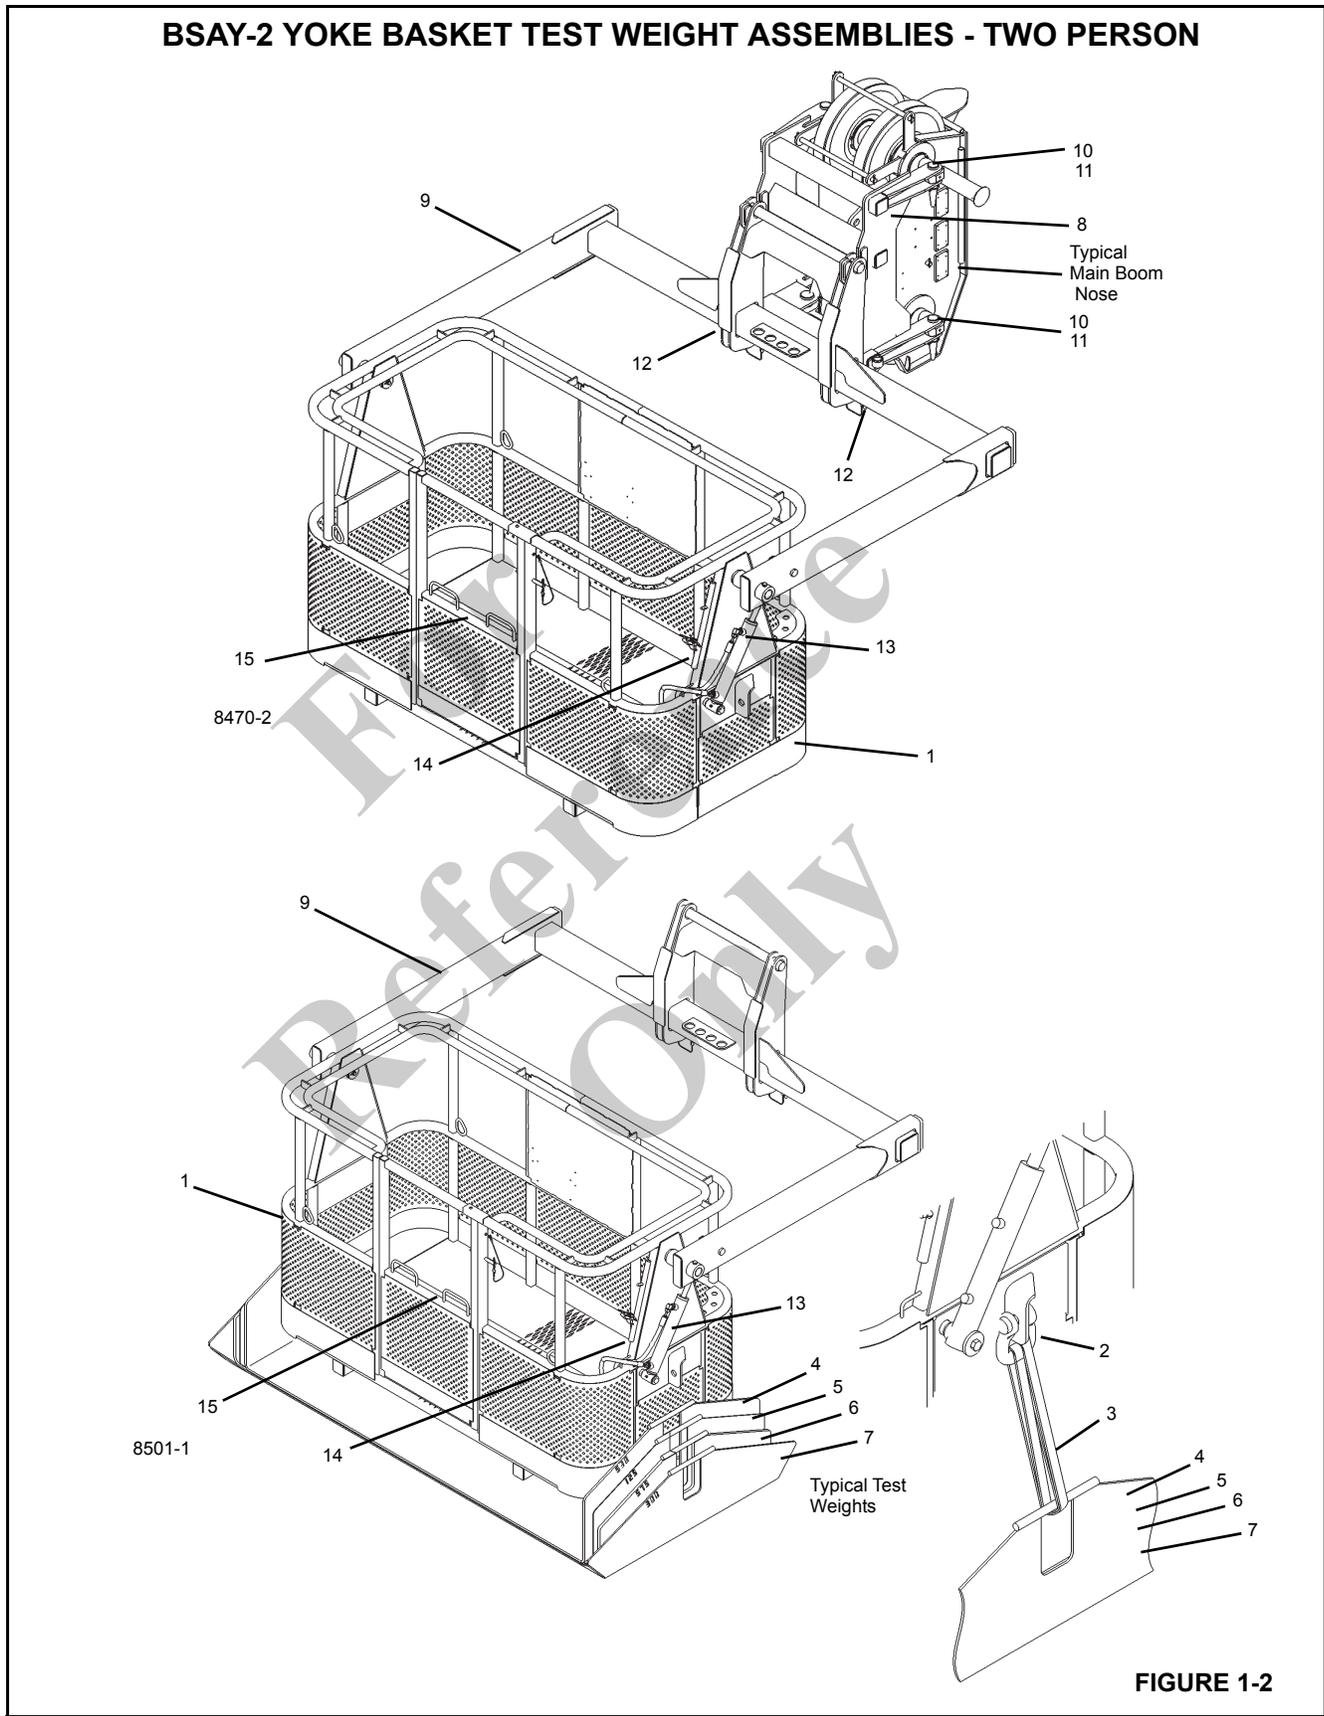
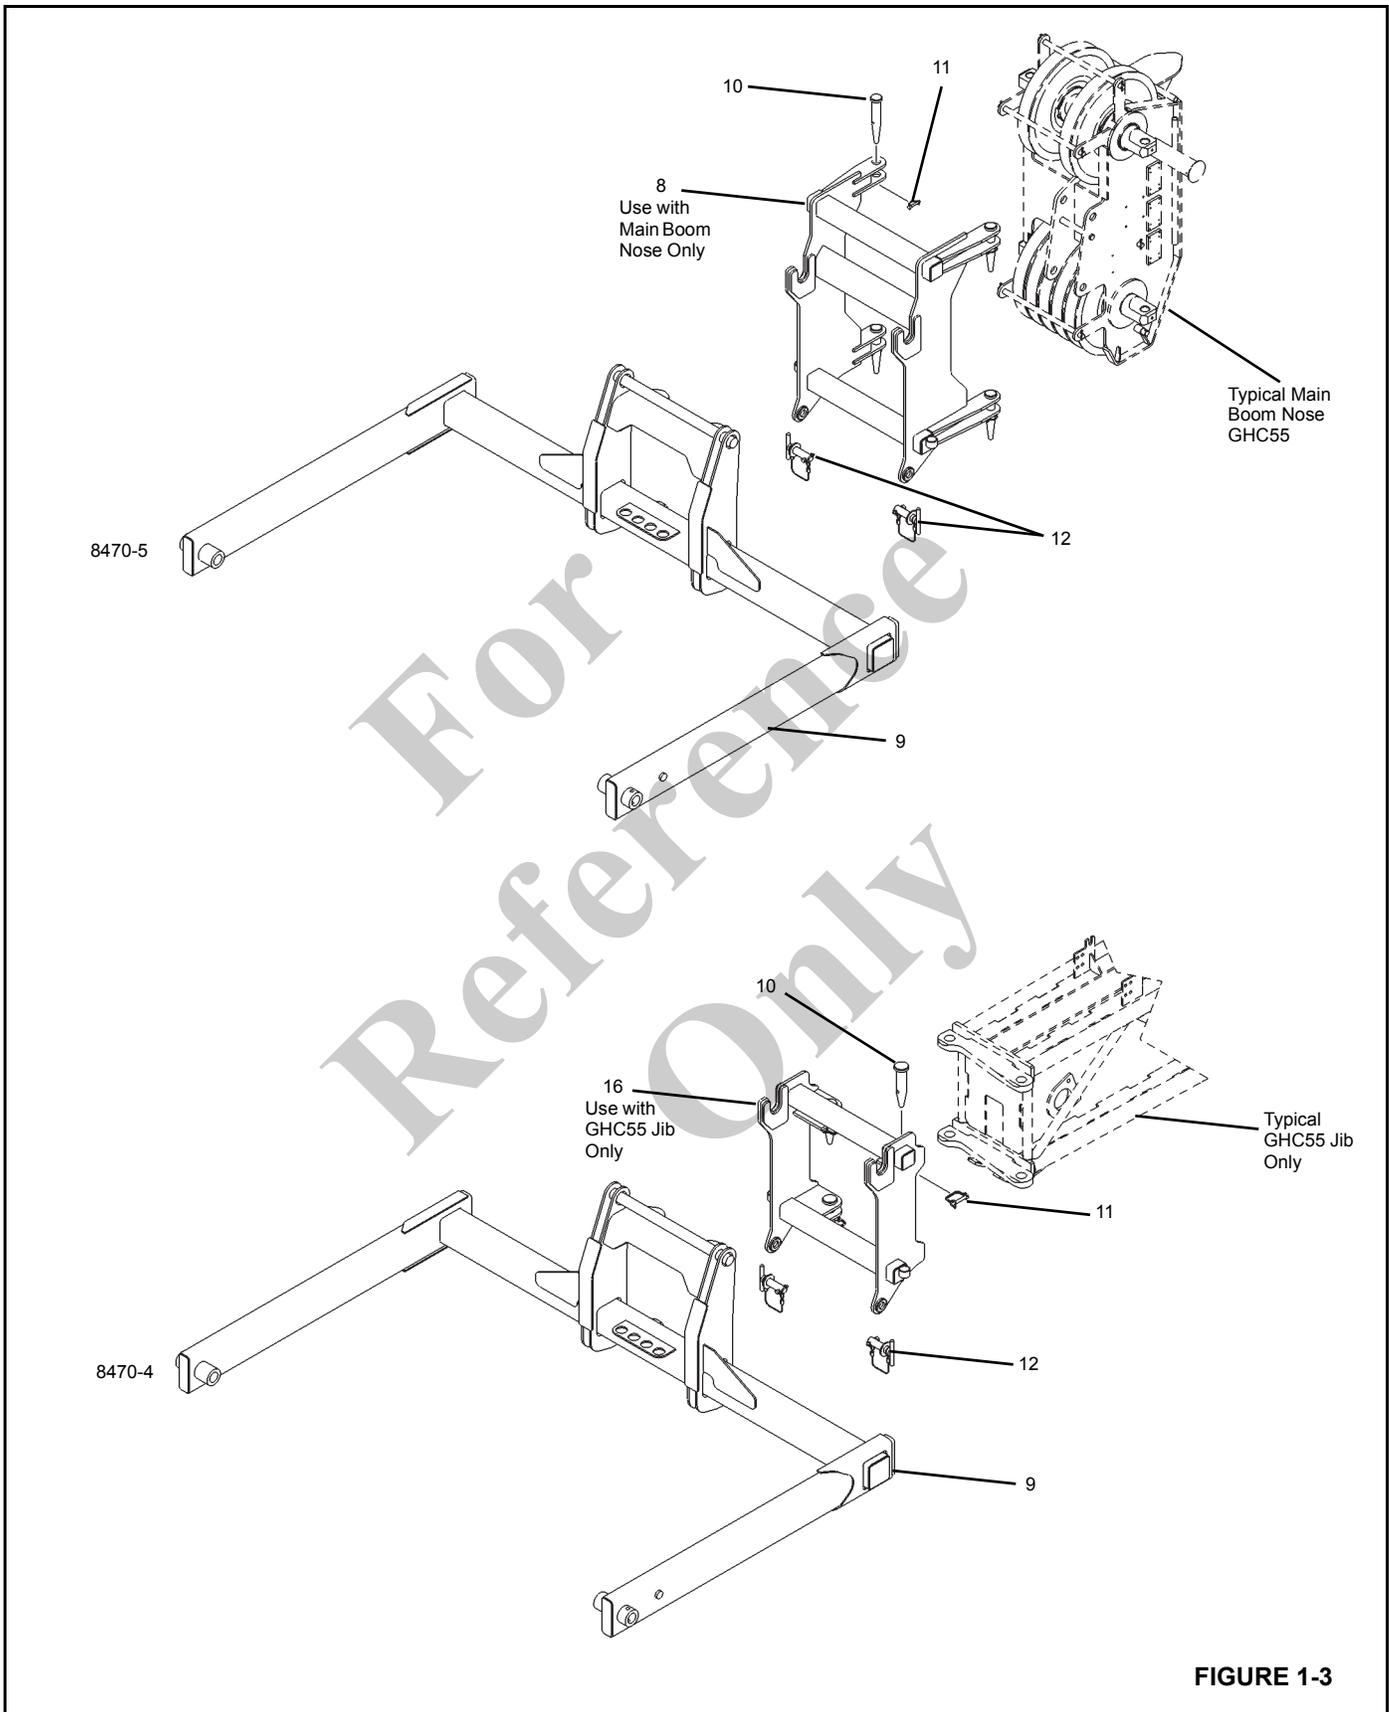
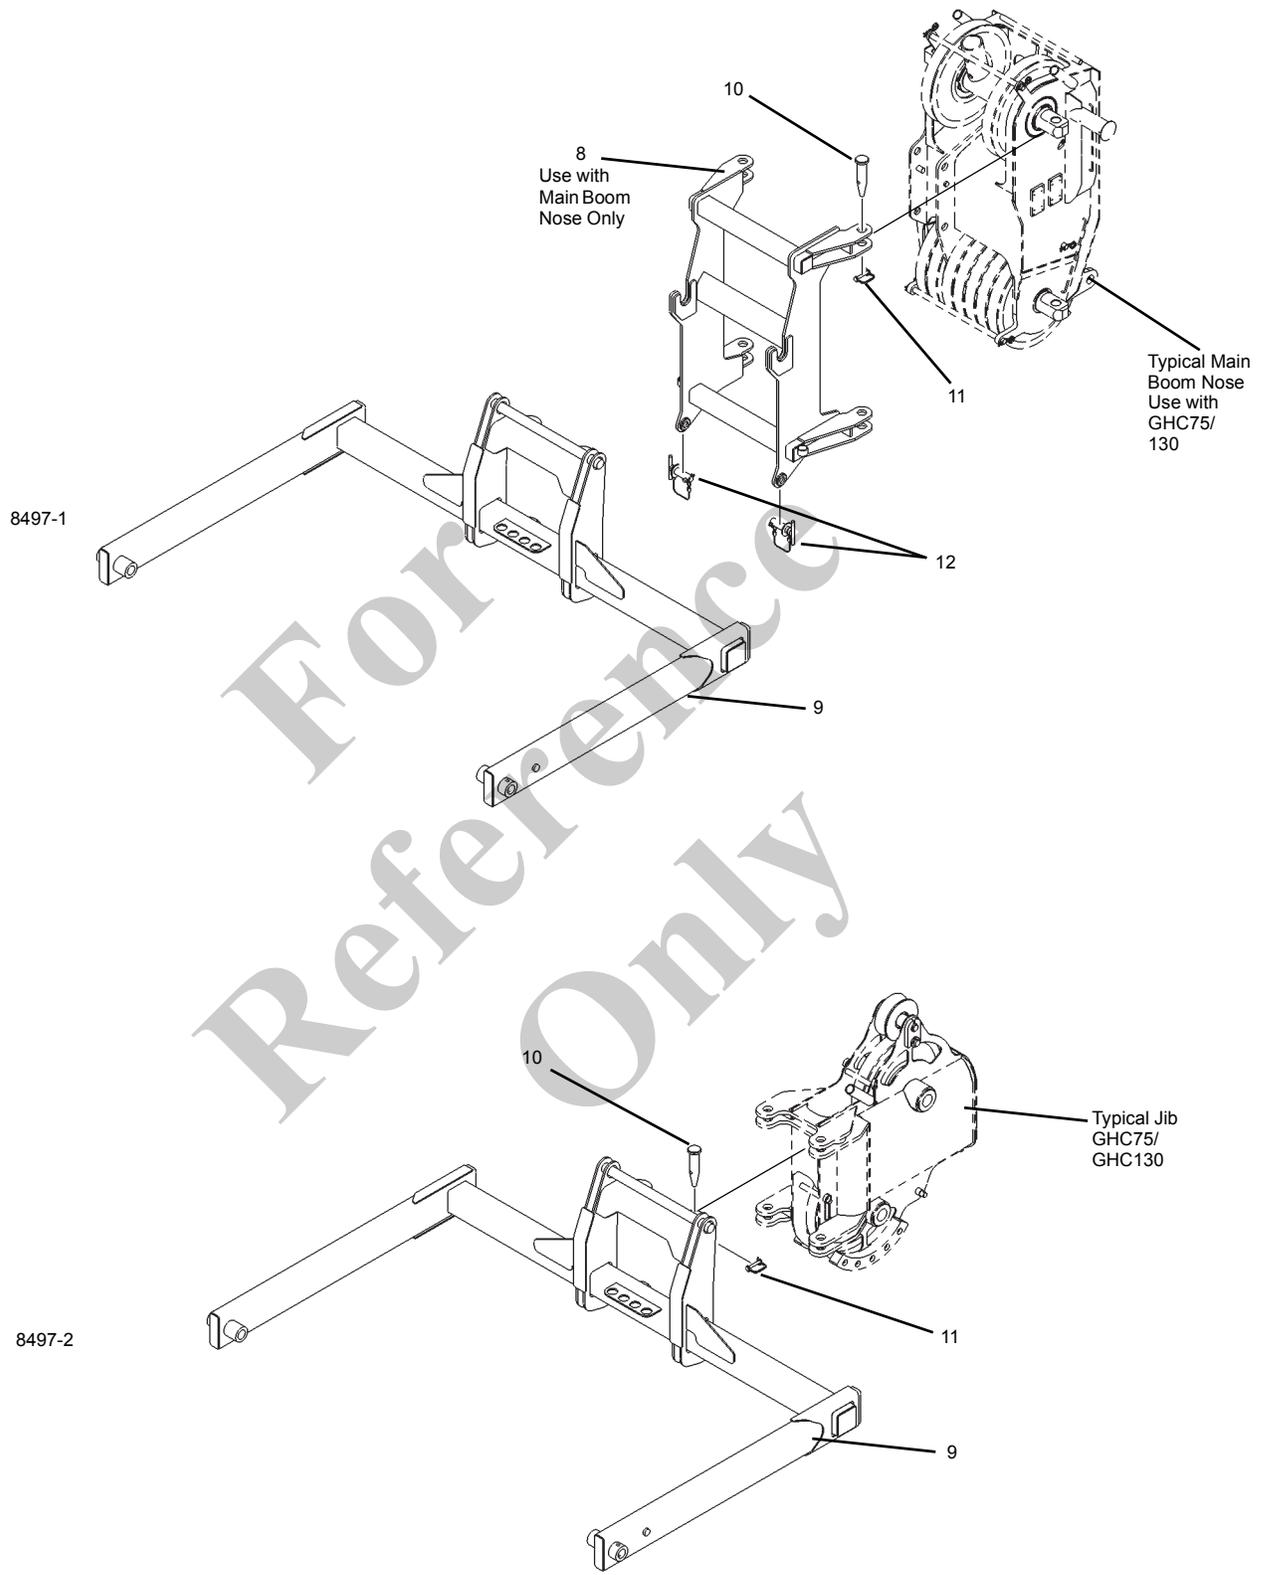

FIGURE 1-2
FIGURE 1-3
FIGURE 1-4
Use the Basket Parts List, Figure 1-2, Figure 1-3 and the *Basket Type and Test Weights* table to determine which basket type and weight combinations to use for each different test lift.
1. Install two bracket assemblies (1, Figure 1-2, Figure 1-3).
2. Install two web sling shackles and two slings to the basket, Figure 1-2.
4. Position the weight on the floor and lower the basket assembly onto the weight. Connect the weight to the basket with the two slings (Figure 1-2, Figure 1-3).
BSAY Yoke Basket Assembly Parts List (Figure 1-2)
The baskets use the quick attaching system to attach the basket to the tip of the boom or jib. See (Figure 1-2) and (Figure 1-3) and (Figure 1-4) for yoke basket attachment.
2. Position the adapter (8) to the tip of the main boom nose using attaching hardware (10) & (11) see (Figure 1-3) and (Figure 1-4).
3. Position the yoke (9) to the adapter (8) using attaching pin (12) see (Figure 1-3) and (Figure 1-4).
1. Remove adapter (8) from the boom nose to allow for jib deployment. Stow away adapter for future use.
3. On Model GHC55 only, position the adapter (16) to the tip of the jib using attaching hardware (10) & (11). See (Figure 1-2) and (Figure 1-3).
4. Position the yoke (9) to the adapter (16) using attaching pins (10, 11 and 12) see (Figure 1-3).
5. On Model GHC75 and GHC130, position the yoke (9) directly to the jib using attaching pins (10 and 11) see (Figure 1-4).